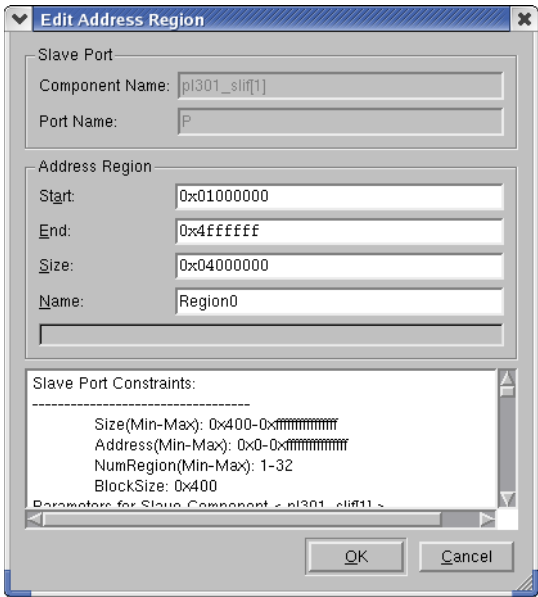

Figure 4-15 Address map for slave 1
- 10. Enter 0x04000000 in the Size field, as Figure 4-15 shows.